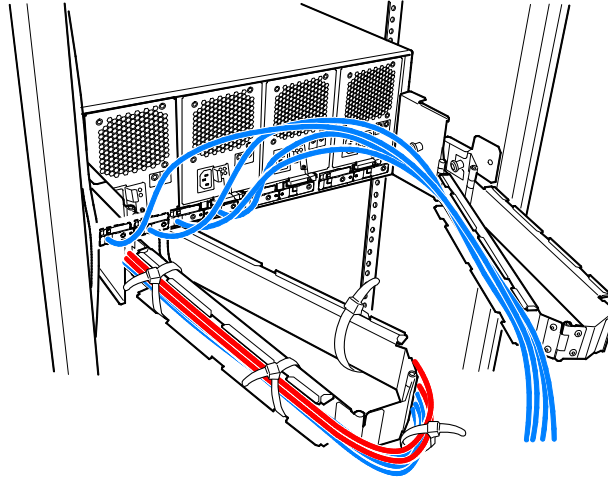

Figure 2.4.86 Routing of the Power Cable #B0, #B1
NOTE : Keep the cables near each connector (Figure 2.4.86 ①) from hanging down below the array.